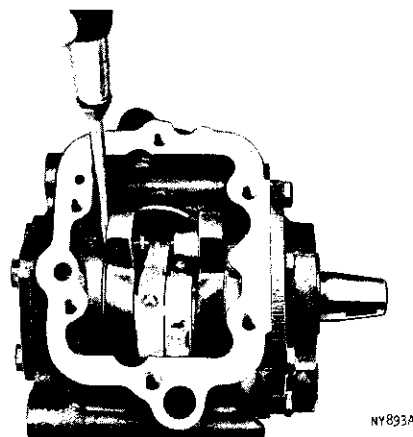

Fig. 43—Measuring the Crankshaft Axial Movement
- (1) Press the crankshaft ball bearing on the crankshaft using a sleeve which bears on the inner race only.
- (2) Install the crankshaft, making sure that the thrust washer is on the rear bearing journal before placing the crankshaft in the crankcase.
- (3) Rotate the crankshaft to engage the oil pump shaft in the crankshaft slot.
- (4) Install the gas seal and crankshaft bearing housing. Use a suitable tool, as shown in Fig. 43 to assure the free axial movement.
- (5) Install the pistons and connecting rods.
- (6) After the pistons and connecting rods are installed, turn the crankshaft to check freeness. The shaft should turn without binding.
- (7) Install the oil sump, valve plates and the cylinder heads.